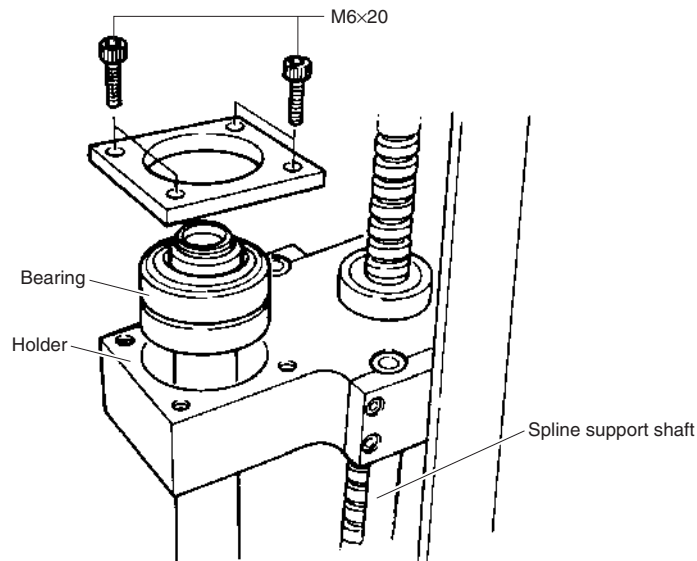

Fig. 5-19
- 7) Remove the bolts (M6×20L, 4 pieces) securing the bearing to the upper end of the spline and remove the bearing mount plate. (See Fig. 5-19.)
- 24) Put the bearing into the holder and tighten the bolts (M6×20L, 4 pieces) to secure the bearing mount plate to the holder (See Fig. 5-19.)